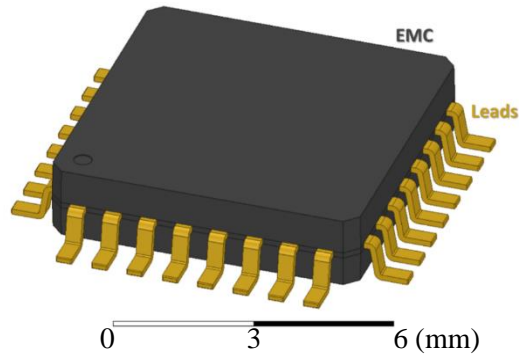

Figure 1: Quad-flat pin (QFP) package with 32 leads.
3. Using ANSYS Q3D Extractor, draw a wire bond using the Draw Bondwire tool on the Draw tab. Use the JEDEC 4-point type wire bond. Set the material as aluminum, diameter to 5 mil, h1 (the loop height) to 3 mm, and h2 (the height offset between the first and second bonds) to 0 mm. Leave the default number of facets (6). Use the faces at either end of the wire bond for the source and sink. Simulate the DC self-inductance for total lengths (including the loops) of 10 mm, 15 mm, and 20 mm (set the “distance” to 6.3, 11.5, 16.7, respectively).
4. Consider that a chip is packaged in the quad-flat package (QFP) with 32 leads shown in Figure 1. The leads are all made of copper, and epoxy molding compound (EMC) is used for the housing and encapsulant. Figure 2 shows three arrangements for the supply ( $V_{cc}$ ) and ground ( $GND$ ) lead assignments. For all cases, there is only one voltage source  $V_{cc}$  and only one ground  $GND$ . For (b) and (c), there are two leads in parallel for the  $V_{cc}$  and  $GND$ . The leads all go to the same chip/load.